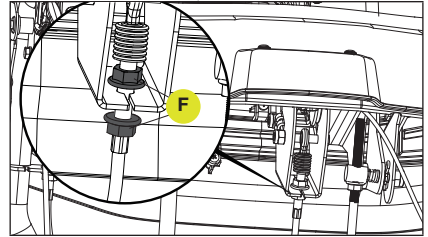

Figure 84
7. Completely loosen both nuts (F) on this cable. (Fig. 84)